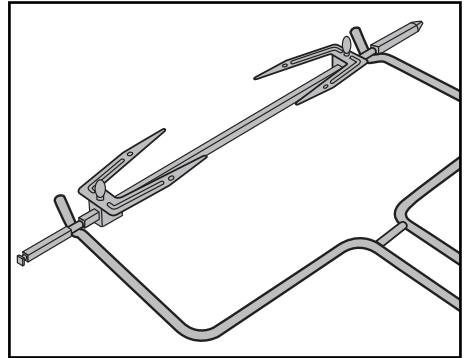

Fig. 3: Hooking the tongs **12** onto the rotisserie **16**
- To remove the hot rotisserie **16**, grip with the hooks at the end of the tongs **12** into the recesses on the rotisserie **16** (Figure 3):